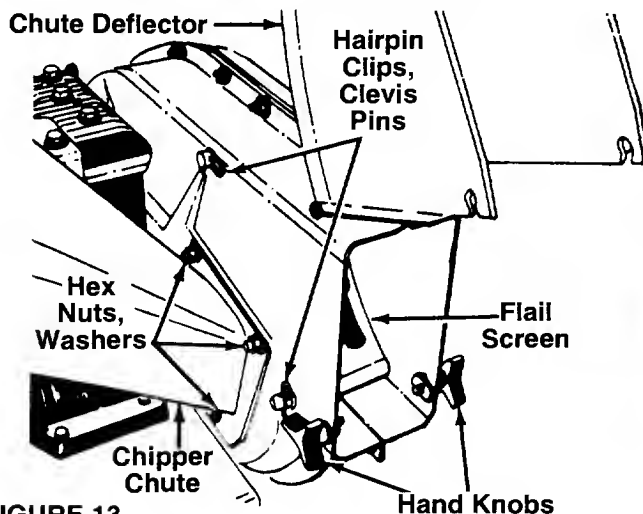

FIGURE 13.
- Remove two hairpin clips from the clevis pins which extend through the housing. Remove the clevis pins. Lift the flail screen from inside the housing. See figure 13.
**NOTE:** Be certain to reassemble the flail screen with the curved side down as shown in figure 13.
- Remove the chipper chute by removing three hex nuts and washers. A 1/2" wrench is required. See figure 13.